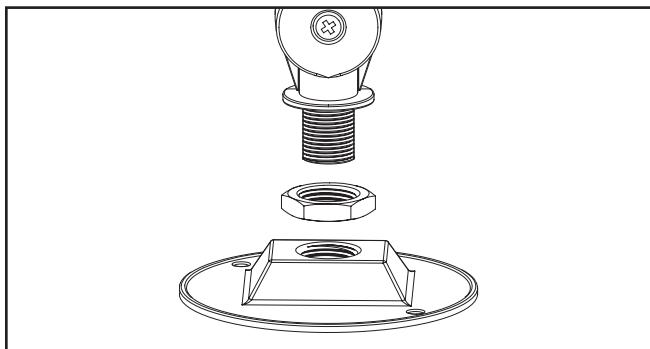

**Figure 1.**
1. Loosen the knuckle center screw with phillips head screw driver. Adjust the position and angle of the knuckle stem. Re-tighten the center screw to 9 in-lbs for Tracer Small or 17 in-lbs for Tracer Large. (Figure 1.)